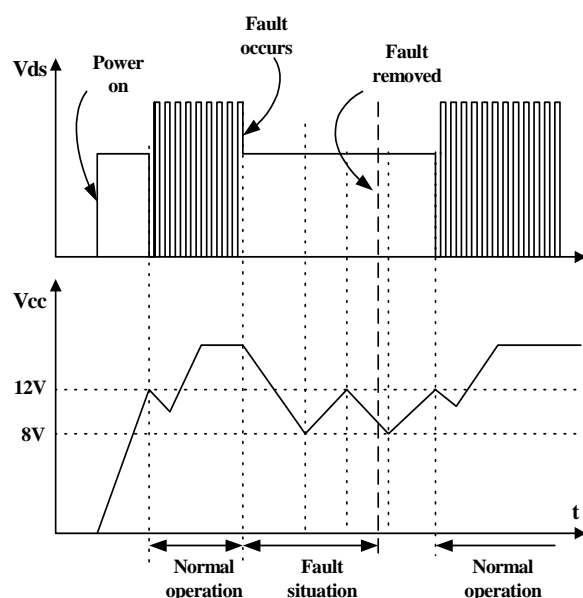

Figure 6. Auto Restart Operation
3. Protection Circuit: The FSDM1265RB has several self protective functions such as overload protection (OLP), over voltage protection (OVP) and thermal shutdown (TSD). Because these protection circuits are fully integrated into the IC without external components, the reliability can be improved without increasing cost. Once the fault condition occurs, switching is terminated and the SenseFET remains off. This causes Vcc to fall. When Vcc reaches the UVLO stop voltage (8V), the protection is reset and the internal high voltage current source charges the Vcc capacitor via the Vstr pin. When the Vcc reaches the UVLO start voltage (12 V), the FSDM1265RB resumes its normal operation. Thus, the auto-restart alternately enables and disables the switching of the power SenseFET until the fault condition is eliminated (see Figure 6).